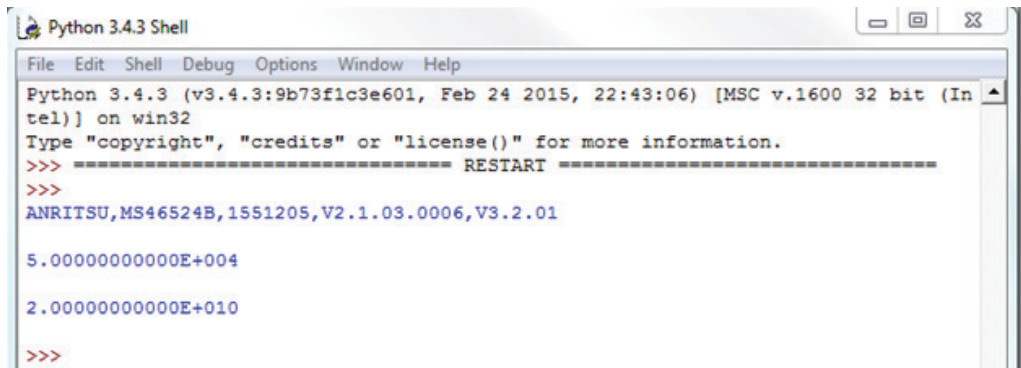

**Figure 1-13.** Execution of Python Script
7. The input of the script should look like Figure 1-13.